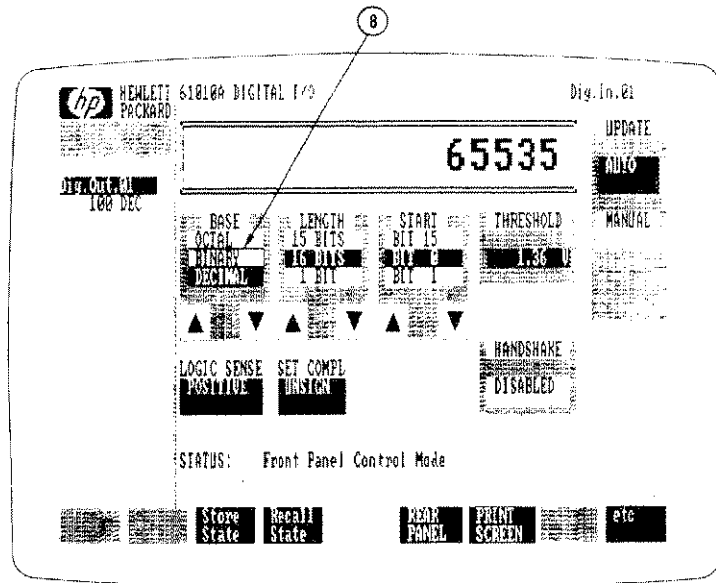

Figure 2-9. Activate the Binary Base
Step 8 - When the binary base appears in the center position on the list, point to and select the center position to activate the binary base (see Figure 2-9).